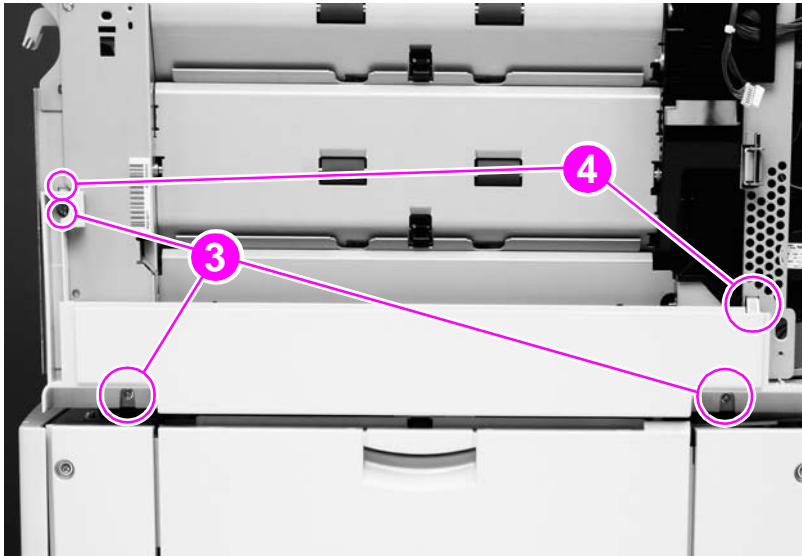

Figure 68.
- Reinstall the right lower cover (figure 68 on page 127) before the right rail cover (figure 48 on page 110).